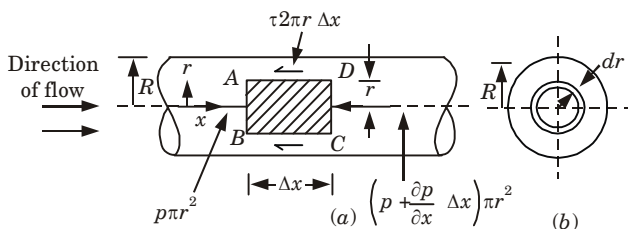

Fig. 3.1.1.
2. Direction of fluid is shown in Fig. 3.1.1.